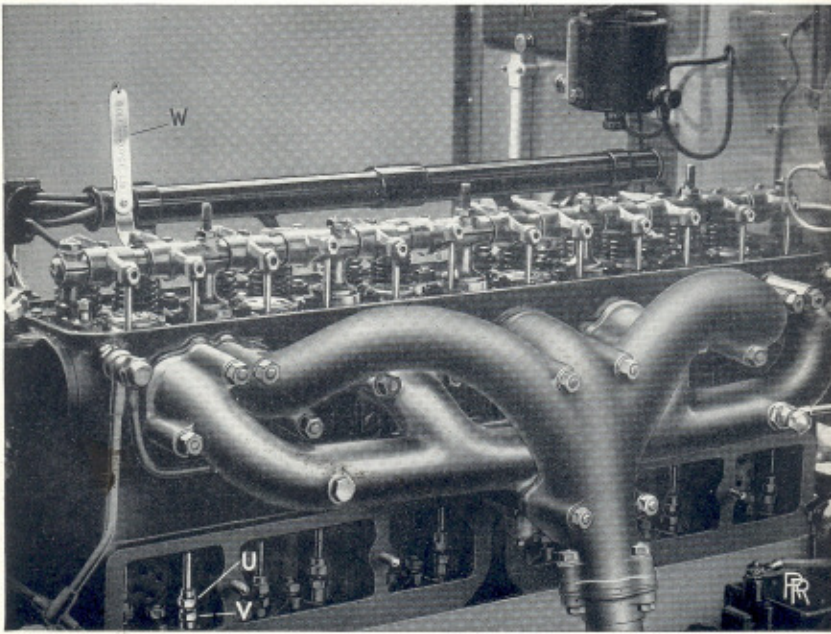

FIG. 11. ADJUSTING THE TAPPETS.
**Reassembling.** Before replacing the rocker shaft, all the valve tappet heads must be screwed down as far as possible by releasing the locknut **V** (Fig. 11), and screwing the head **U** into the tappet. This will avoid the risk of bending the push rods as the rocker shaft is secured in position.
**Adjusting Tappets.** The valve tappets are provided with adjustable heads, access to which is obtained by removing the two covers on the left-hand side of the engine. In Fig. 11 these covers are shown removed for adjusting the tappets.